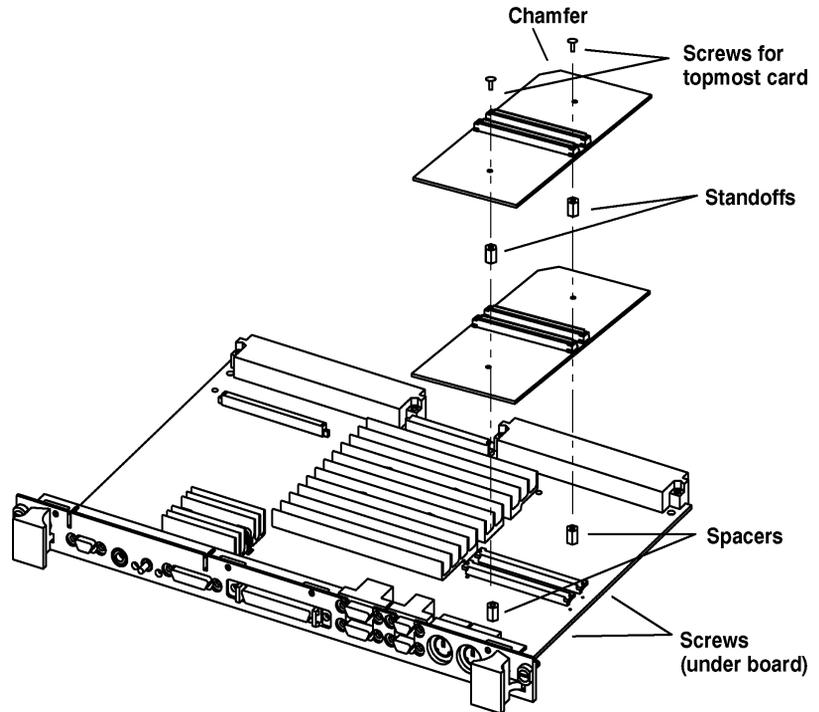

Figure 2-1
For a Model 744 in a single slot configuration (no expansion adapter installed), only one RAM can be installed. In a two-slot configuration, up to four RAM cards may be stacked. Use these steps and Figure 2-1 to install the RAM cards:
- 2 If the Model 744 has RAM card(s) already installed, remove the screws that secure the topmost RAM card, and then install the new standoffs that came with your RAM card onto the topmost card (see Figure 2-1).
- 3 Hold the RAM card you are installing so that the conferred corner is the upper-left corner (see Figure 2-1).